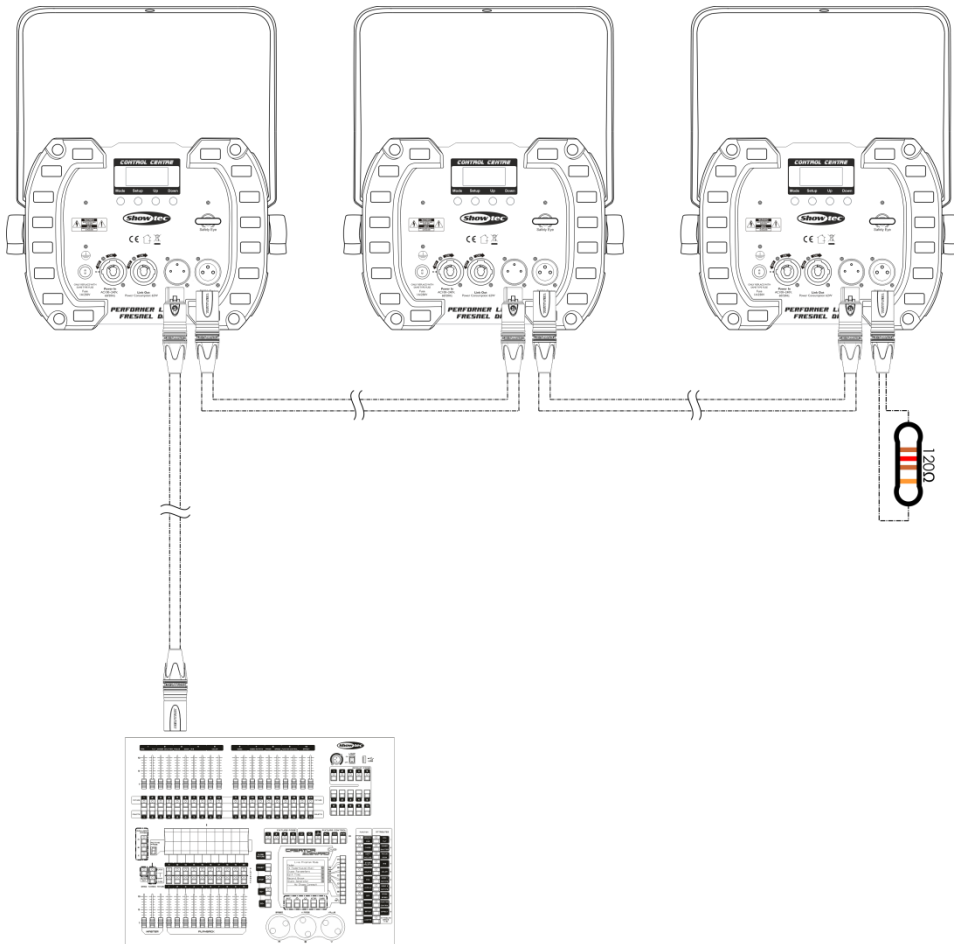

Fig. 05
- 04) Link the units as shown in fig. 05. Connect the first unit's DMX "out" socket with the second unit's "in" socket, using a DMX-signal cable. Repeat this process to link the second and third units.